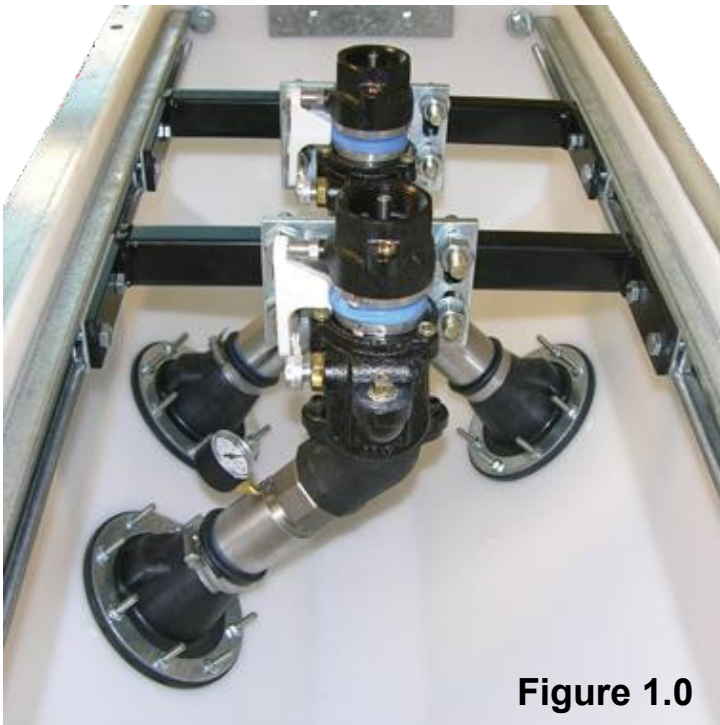

Figure 1.0
29. If a facility installs OPW-flex works equipment, including the setup shown in Figure 1.0, then what are the monitoring requirements in regards to interstitial piping leak detection?